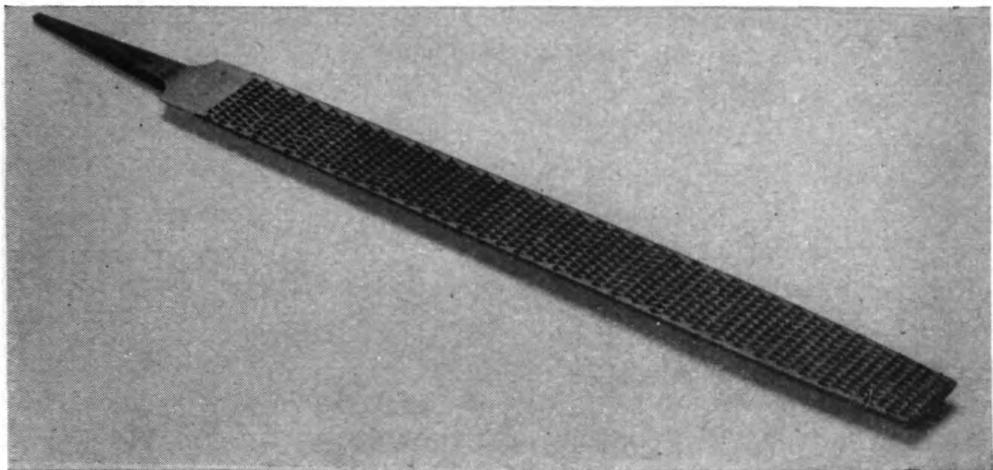

Figure 108. Rasp.
j. RASP. A rasp is a very coarse file with the individually cut teeth. (See fig. 108.) It is used on wood as a file is used on metal. A file is sometimes used for fine work on irregularly shaped wood parts.